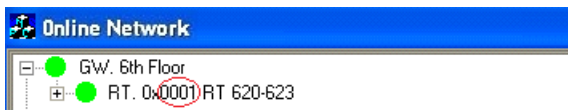

Figure 35
3. Choose the applicable **Network Address** in the drop-down-menu; the network addresses are shown in the **Online Network** tree of SysMon, see example in Figure 35.